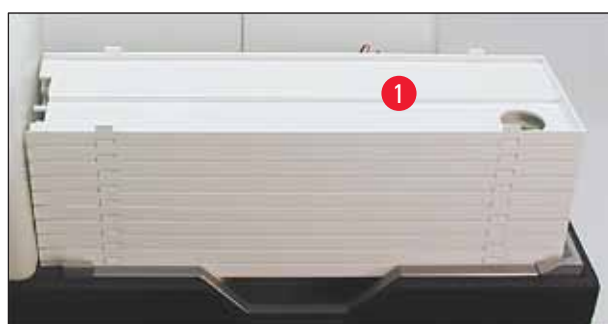

Fig. 42
- Place a stack of trays (→ "Fig. 42-1") onto the lifting table of the unload station (→ "Fig. 42").